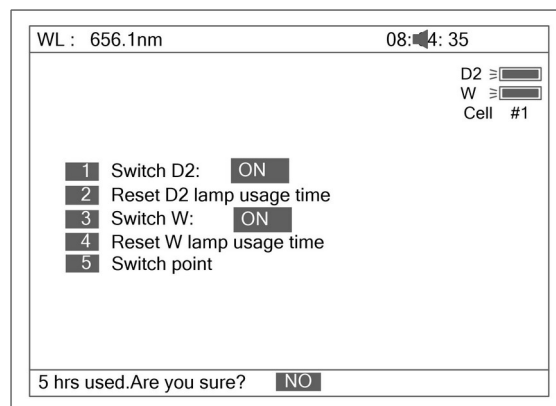

Fig 83
4. Press [ 4] in Fig 79 to reset usage of W (Fig 83). Press [Λ] or [v] to select “Yes” or “No”, and then press [ENTER].